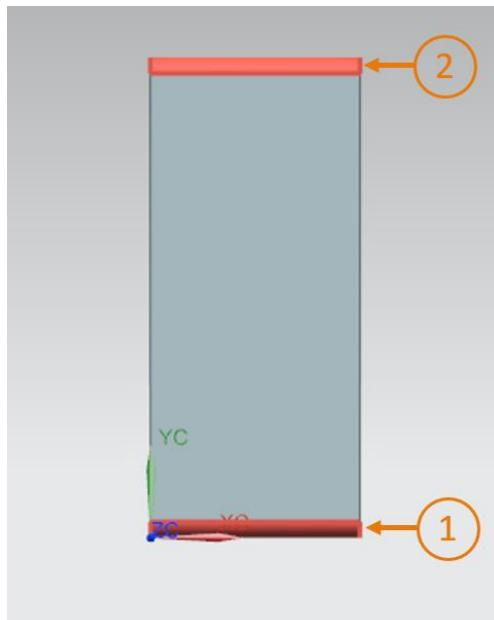

Figure 28: Conveyor belt with end rollers highlighted in red
Other collision bodies are the rollers at the front and rear ends of the conveyor belt, as illustrated in Figure 28. These end rollers are basically cylindrical in shape. Note that a separate collision body must be created for each end.
- Start with the front-end roller. Open the "**Collision Body**" command window again for this. Select the **front end roller** as the object (see Figure 28, step 1) and "**Cylinder**" as the collision shape. Name this collision body "**cbConveyorShortStart**" and finish the creation of the collision body.
- Now continue with the rear end roller. Open the "**Collision Body**" command. Select the **rear end roller** as the object (see Figure 28, step 2) and "**Cylinder**" as the collision shape. Name this collision body "**cbConveyorShortEnd**" and finish the creation of the collision body.